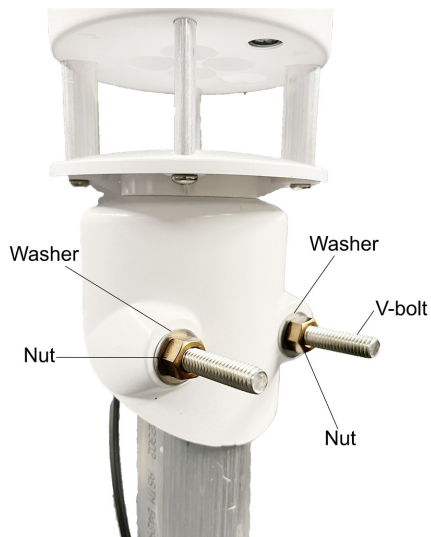

Figure 3-6. ClimaVue 40 mounted to a pole with V-bolt and nuts
2. Mount the sensor to the mounting tube using the CM221 bracket along with either the 3659 pipe or the 17387 mounting kit. Use the V-bolt, washers, and nuts (Figure 3-6 [p. 19]) to tighten the V-bolt nuts until hand-tight.